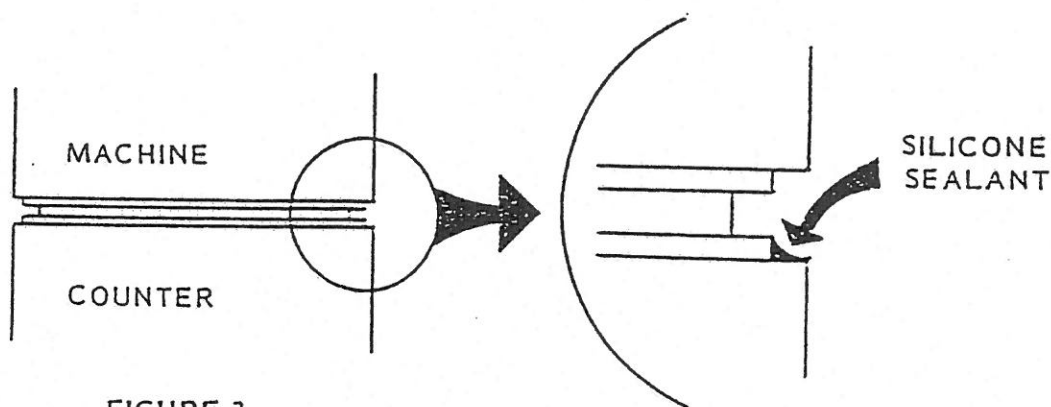

FIGURE 3
2. Clean the lower rim, or bottom flange of the machine base (Ref. Fig. 3).
5. Remove any excess sealant by slowly running a flat edged tool (spackling tool) around the flange of the base frame. This will create a seamless joint between the frame and the counter top (Ref. Fig. 3).